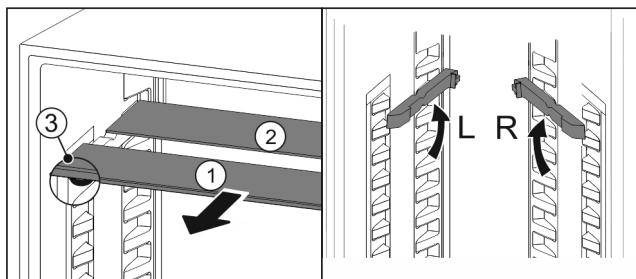

Fig. 121
- ▶ Pull the glass panels out Fig. 121 (1) from the front, one at a time.
- ▷ The glass panel Fig. 121 (1) with the trim strip is at the front.
- ▷ The stops Fig. 121 (3) point downward.